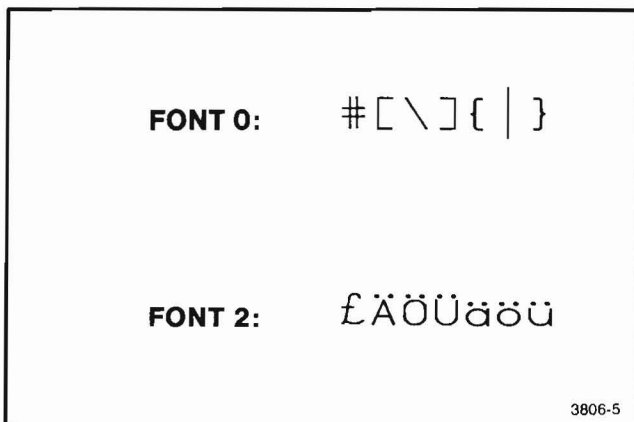

Figure 2-3. Fonts 0 and 2.
- b. Type as many of the following characters, shown for Font 0, as your terminal permits and notice that they are printed as shown for Font 0 in Figure 2-3.
- d. Type as many of the following characters, shown for Font 0, as your terminal permits and notice that printed characters appear as shown for Font 2 in Figure 2-3: